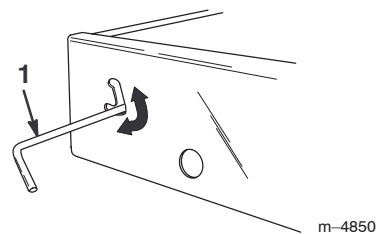

Figure 18
1. Slide the latch upward toward the top of the cutout in the bed frame (Fig. 18).
3. To secure the bed tightly to the bed frame, move the latch to the lower section of the cutout (Fig. 18).